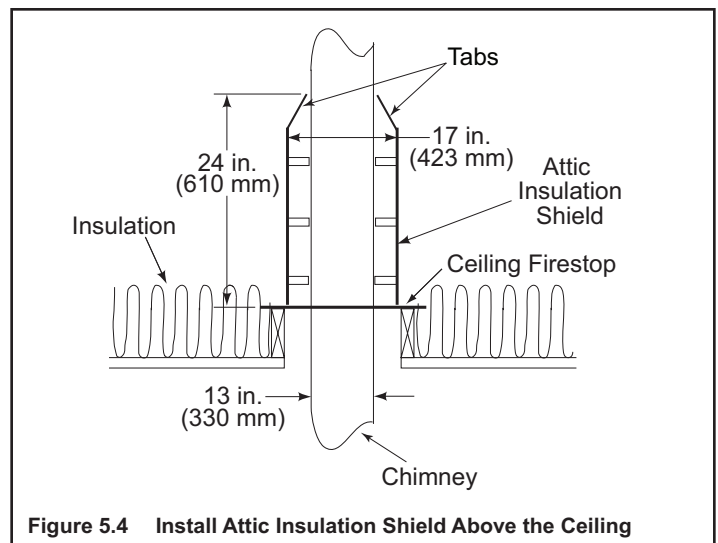

Figure 5.4 Install Attic Insulation Shield Above the Ceiling
- Slide the shield down until it rests on the ceiling firestop. The ceiling firestop will support the insulation shield. See Figures 5.4 and 5.5.